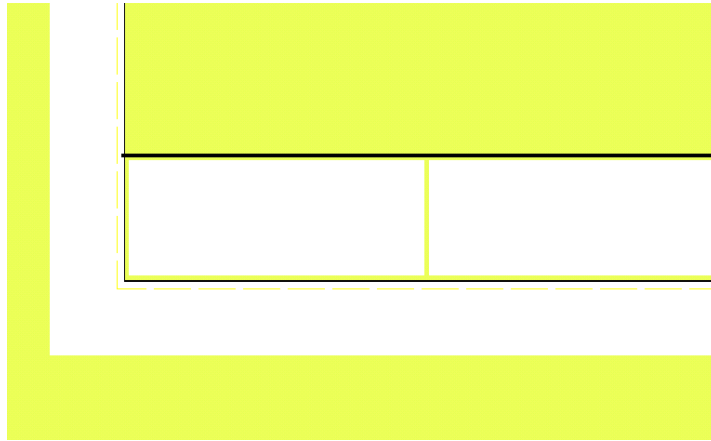

Figure 4-97
28. Select *Modify/Select Object*. Place the cursor just at the top of the left rectangle and click on the edge. Only the rectangle outline should be highlighted. Click the <Delete> key to delete the rectangle outline. Repeat for the right rectangle. See Figure 4-97.